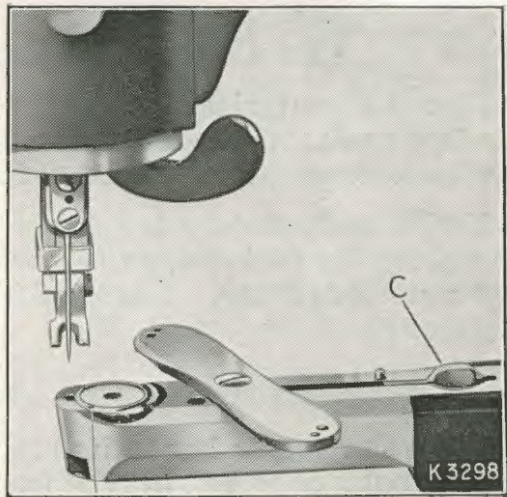

Fig. 10.
After threading the shuttle, turn the balance wheel until the upright part of the shuttle carrier is to the right; then with the point of the shuttle nearest you, and pointing towards the right, drop it and the bobbin into the recess provided for them, as shown in Fig. 10. Raise the needle bar to its highest point, press the lever (C), and turn back the needle plate to its sewing position.